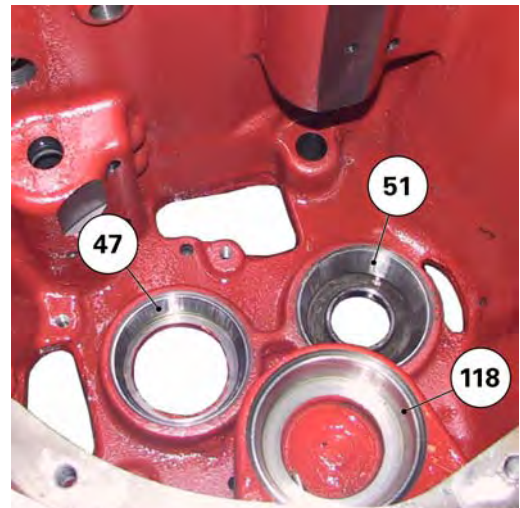

Fig. 41
108. Check the presence of the bearing cups (51), (47) and (118) in the gearbox housing (5) (Fig. 41).
119. Check the presence of the bearing cup (47) in the gearbox housing (5) (Fig. 41).